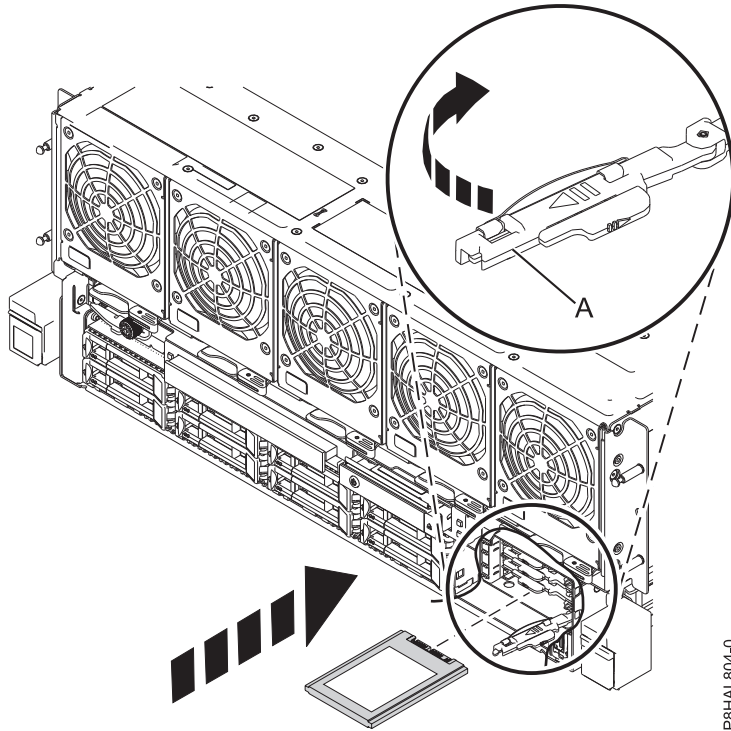

Figure 25. Replacing an SSD in an 8408-44E or 8408-E8E system
- Lock the drive by rotating the bay handle (A) in the direction that is shown in Figure 25 on page 38.